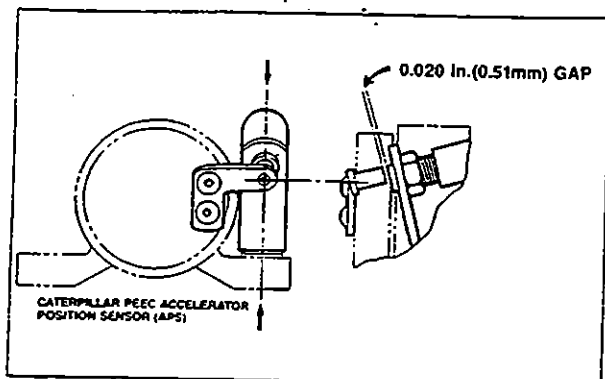

Fig. 1.1.13
**Correction:** If the previous reading was 5 volts, connect the positive (+) probe to the pink wire and the negative (-) probe to the brown wire. With the accelerator in the low idle position, the VOM should read 0 volts. If the reading is not 0 volts, the clearance between the magnet and sensor may be too large or the magnet may not be in line with the sensor. If necessary, realign the magnet and sensor and readjust the clearance to 0.02 inches (0.51 mm) (Fig. 1.1.13). If the volt meter still does not read 0 volts, replace the sensor assembly.